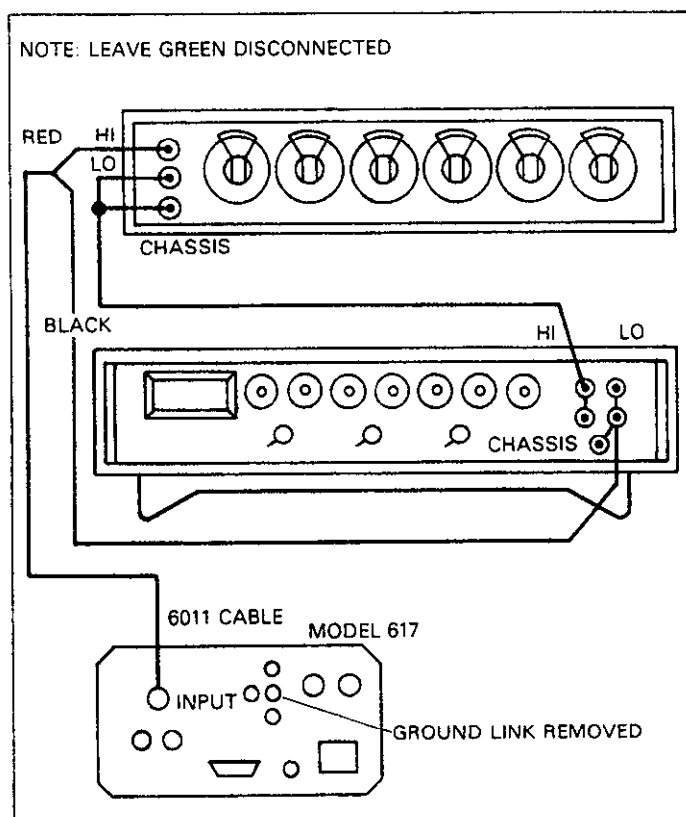

Figure 7-5. Connections For Amps Calibration (20nA, 20μA and 20mA Ranges)
8. Disconnect the resistor/shield fixture from the instrument and connect the decade resistance box in its place, as shown in Figure 7-5.